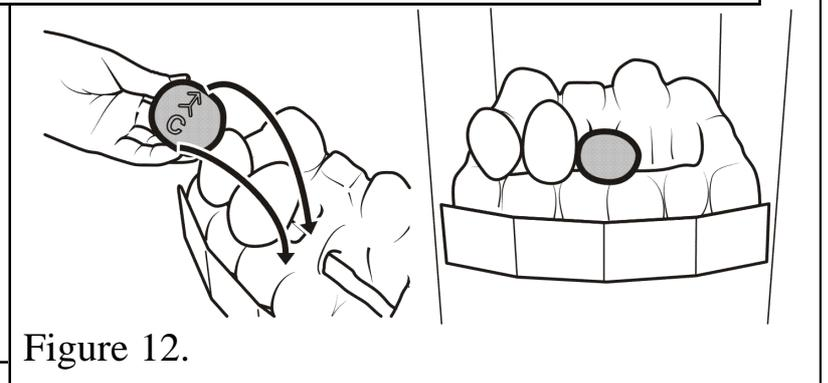

Figure 12.
5. Hold pebble 'C' upright with the arrow pointing to the top. Place pebble "C" on top of the base pebble (See figure 12).